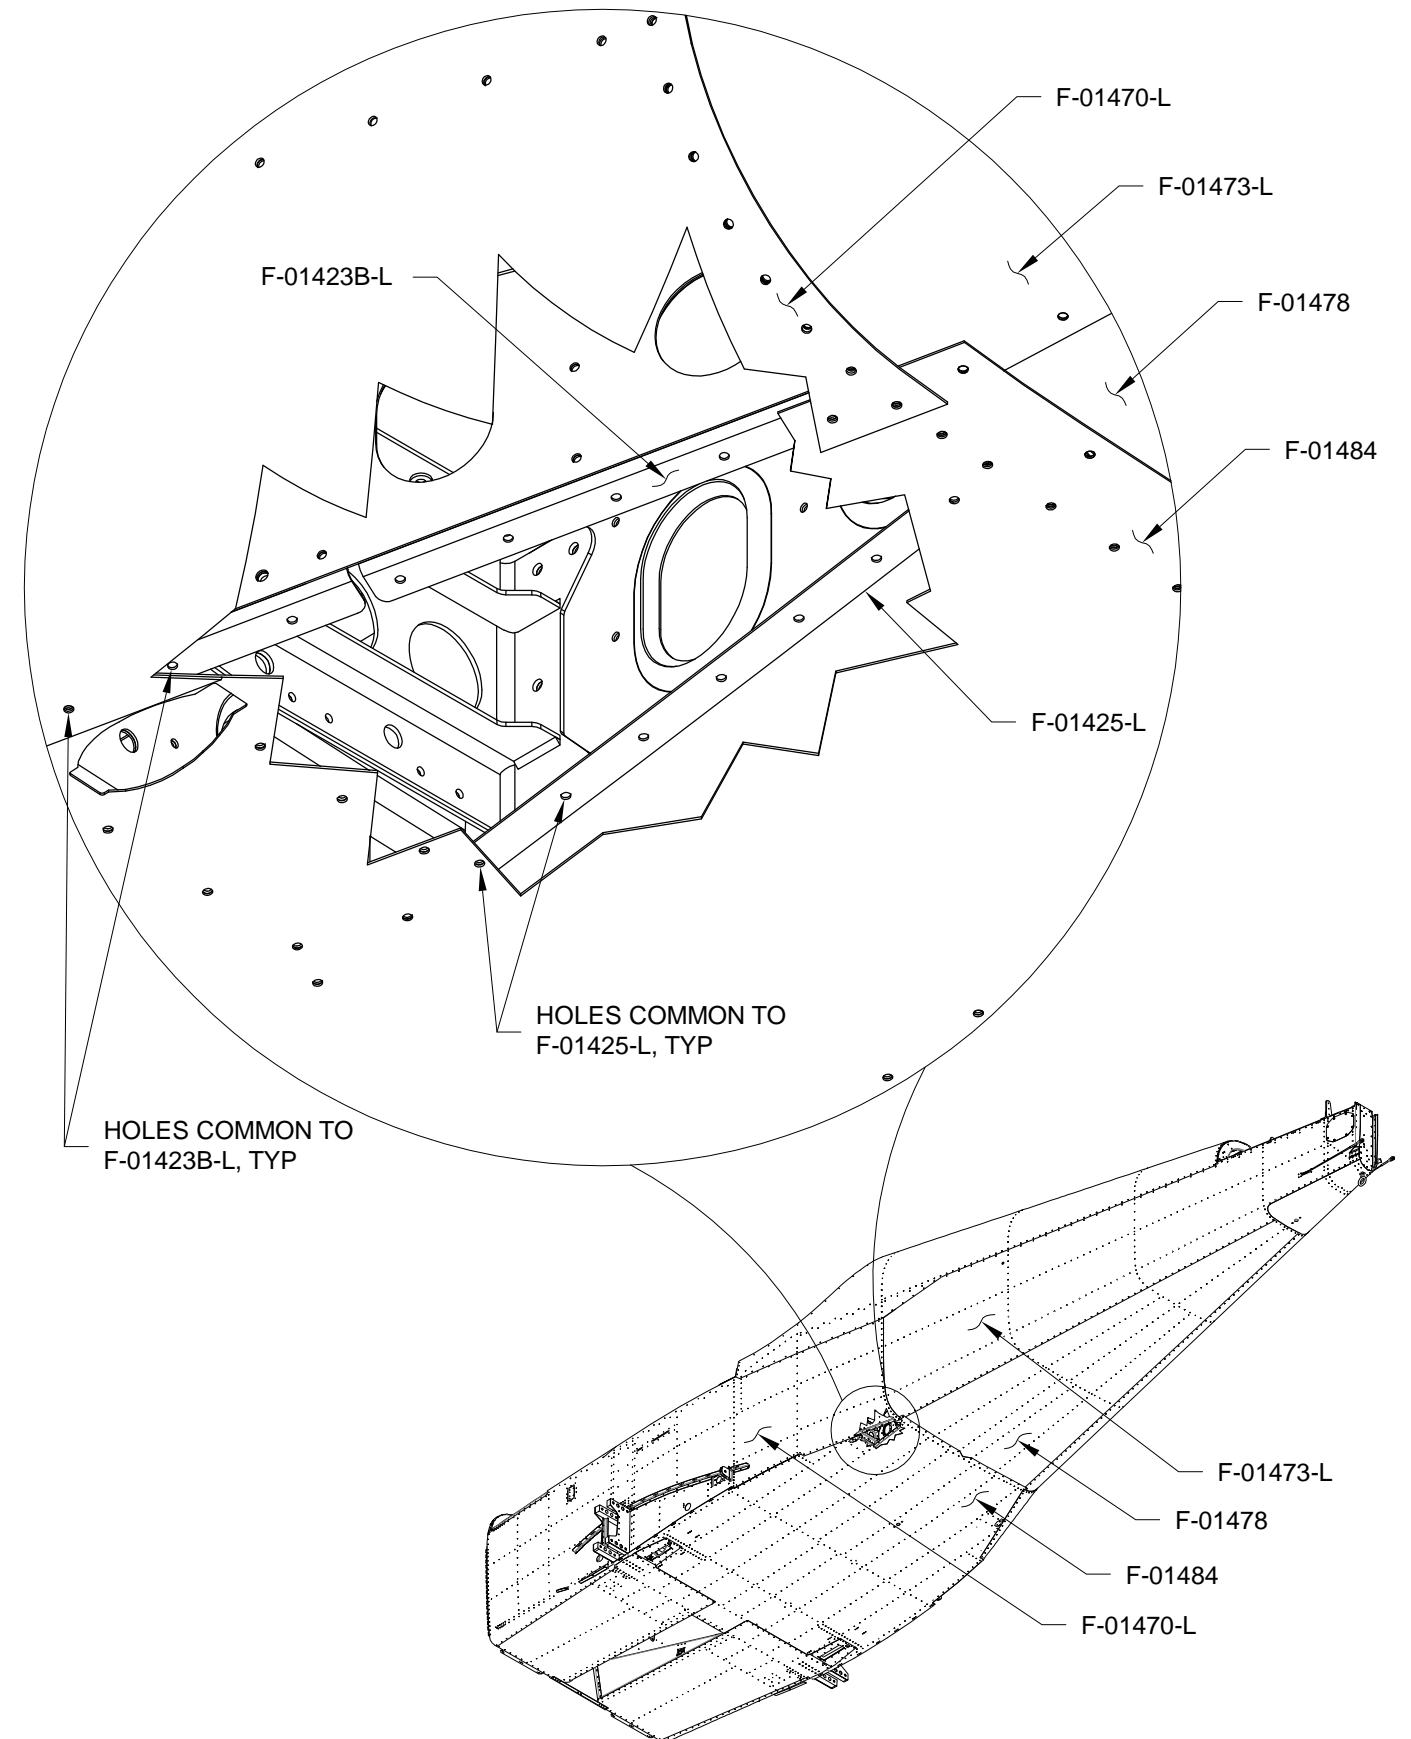

FIGURE 2: CLECO SKIN TO BAGGAGE RIBS
Step 5: Cleco the F-01470-L Fuselage Side Skin and F-01484 Center Bottom Skin to the F-01423B-L Outbd Baggage Rib and F-01425-L Baggage Rib as shown in Figure 2.